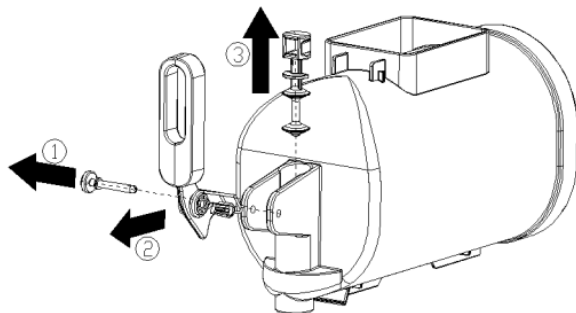

Fig.10
5. Disassemble the discharge faucet in the order shown (as shown in Figure 10).